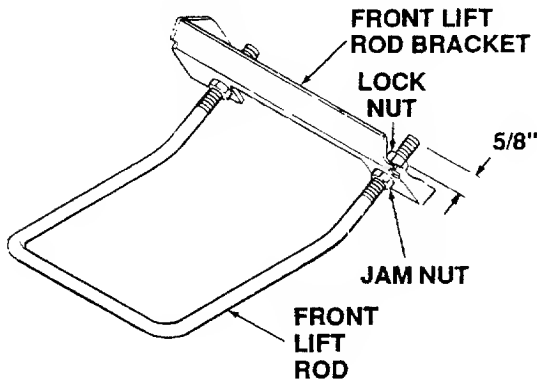

Figure 36
3. Initially adjust the front lift rod to allow 5/8 inch of thread to protrude beyond both lock nuts of the front lift rod/bracket assembly (Refer to Figure 36).
6. To adjust the downward tilt of the blades, adjustment of the front lift rod is required. Refer to Figure 36 and proceed as follows: